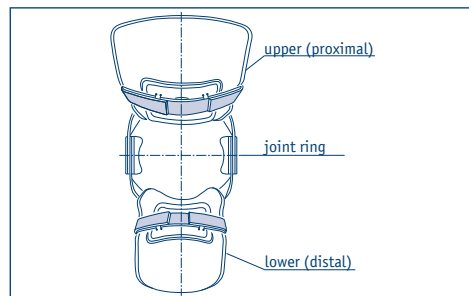

Fig. 3: ACL Treatment
- A 4-point system is implemented with the aid of the two popliteal fossa pads (Fig. 3), e.g. for an anterior instability (drawer sign).